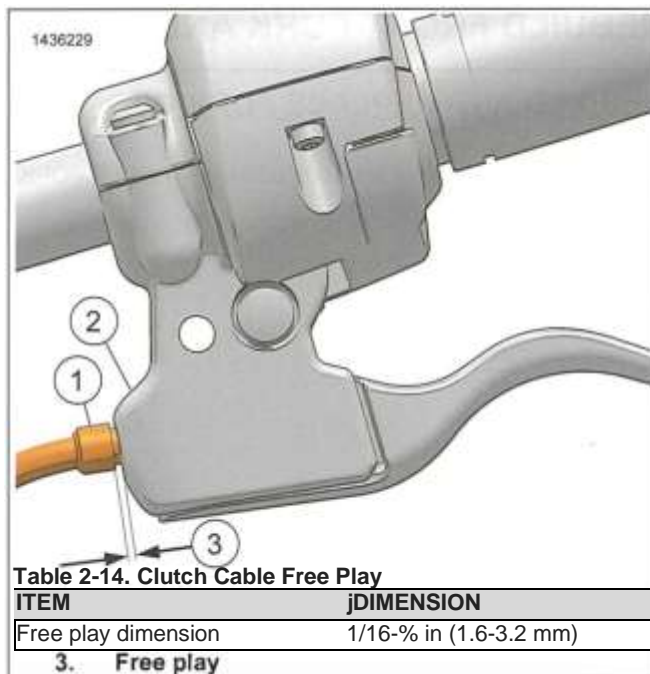

Figure 2-28. Clutch Cable Free Play
10. See Figure 2-28. Check free-play (3) at clutch lever.
2. See Figure 2-28. Check free play.
a. Pull clutch cable ferrule (1) away from clutch lever bracket (2).
b. Check free play (3) dimension. Refer to Table 2-14.